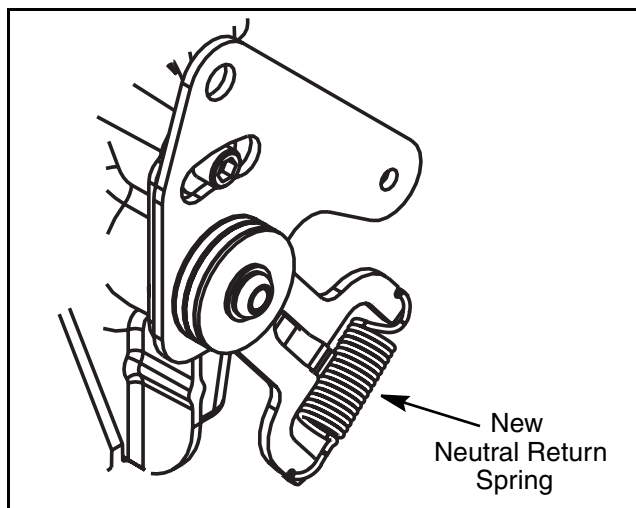

FIGURE 3
5. Install the new Neutral Return Spring, Item 7, onto the two as shown in Figure 3.
4. With a suitable set of pliers or spring removal tool, remove and discard the existing spring from the neutral return mechanisms two arms on the remaining (not replaced with this kit) hydrostatic transmission. See Figure 3.